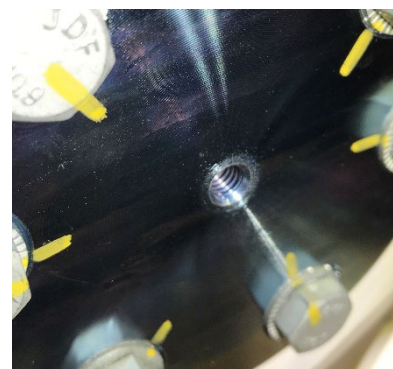

Figure 12: TOP – jack screw threaded hole in trunnion plate. BOTTOM – Jack screw used to remove trunnion plate
- TIGHTEN** jack screw until trunnion plate free of brake assembly trunnion and foundation (Fig. 12).